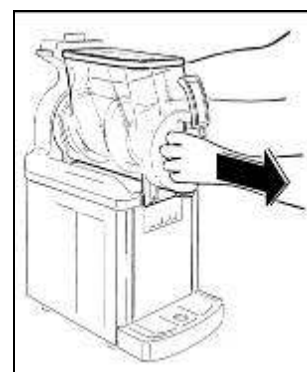

**Fig. 16**
- Simultaneously press the two securing tabs and lift the tap to extract it from its seat (see fig.16).
- Disassemble the tap by keeping the body pressed down and slipping the lever from its seat (fig.16).